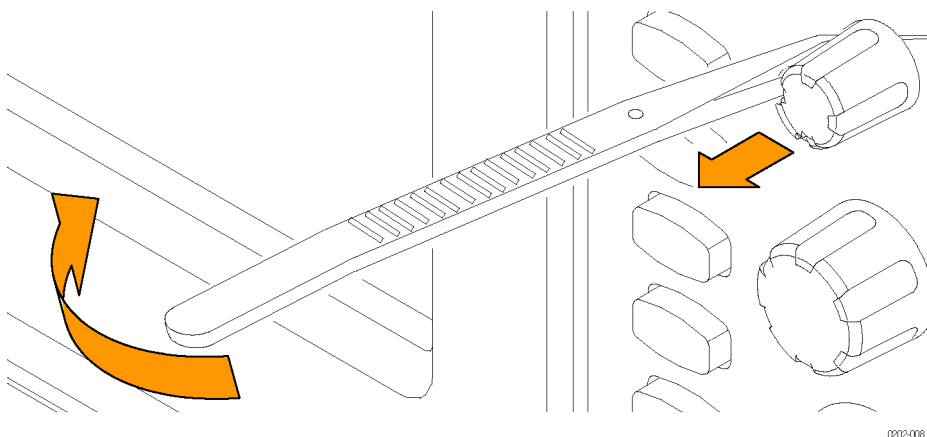

Figure 3: Knob removal
- b. Insert the angled-tip tweezers between the knob and front panel and use them to remove the knob. (See Figure 3 on page 28.)